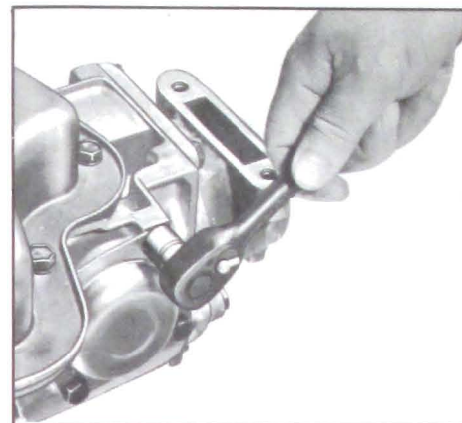

Figure 5-751
2. Attach the governor cover and gasket with four (4) attaching bolts. Torque bolts to 15-20 ft. lbs. See Figure 5-751.